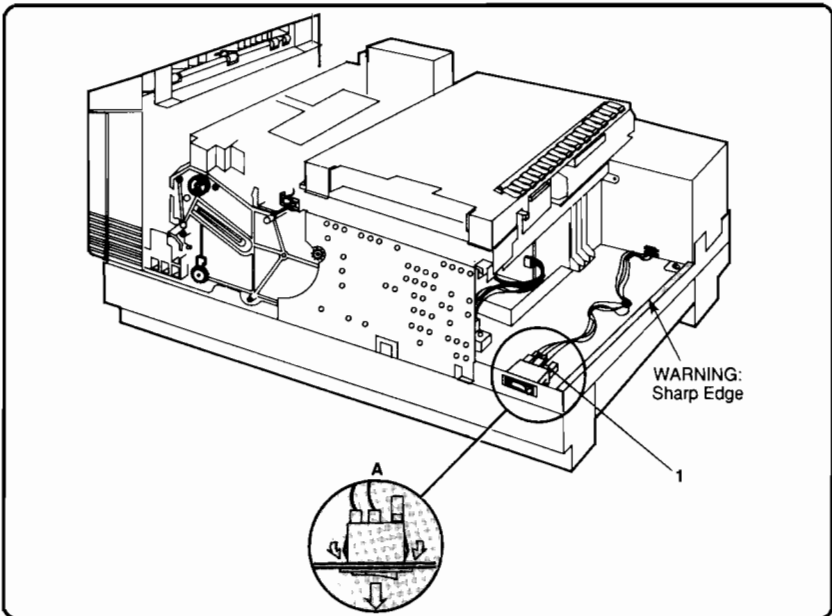

Figure 6-41. Main Power Switch Removal
5. Avoid the **sharp edge** at the rear of the printer and unplug the Power Supply connector from the Main Power Switch (see Figure 6-41, callout 1).
6. Unclamp the Main Power Switch and remove the assembly (see Figure 6-41, detail A).